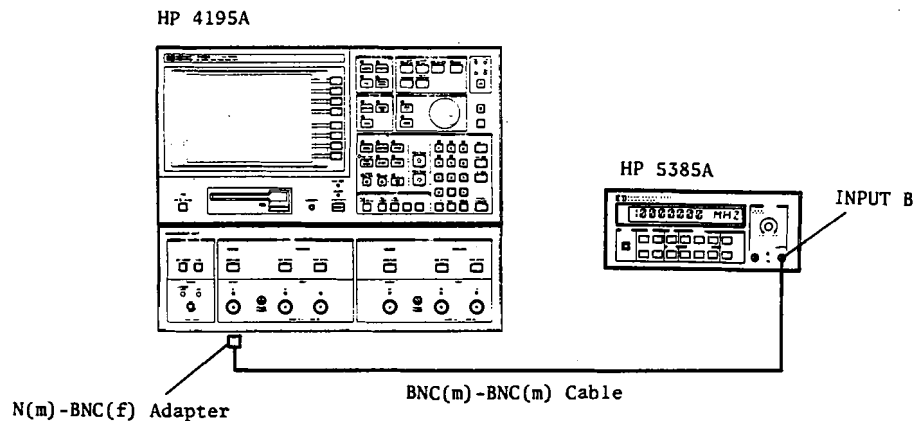

Figure 2-1. Internal Synthesizer Frequency Accuracy Test Setup
2. Connect the BNC(m)-BNC(m) Cable from HP 4195A **OUTPUT S1**, to the Frequency Counter **INPUT B**, as shown in Figure 2-1.